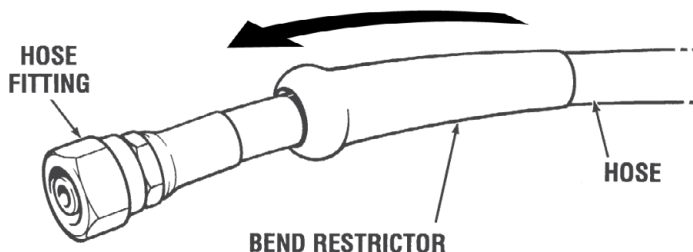

Figure 5-19.
2. Attach the hydraulic hoses to the SmartCylinder and slide the bend restrictor over the fitting as shown in figure 5-19. Torque fitting to 15 ft-lb. (20 Nm). If necessary, you can reposition the fitting on the cylinder. See section 5.5.3.